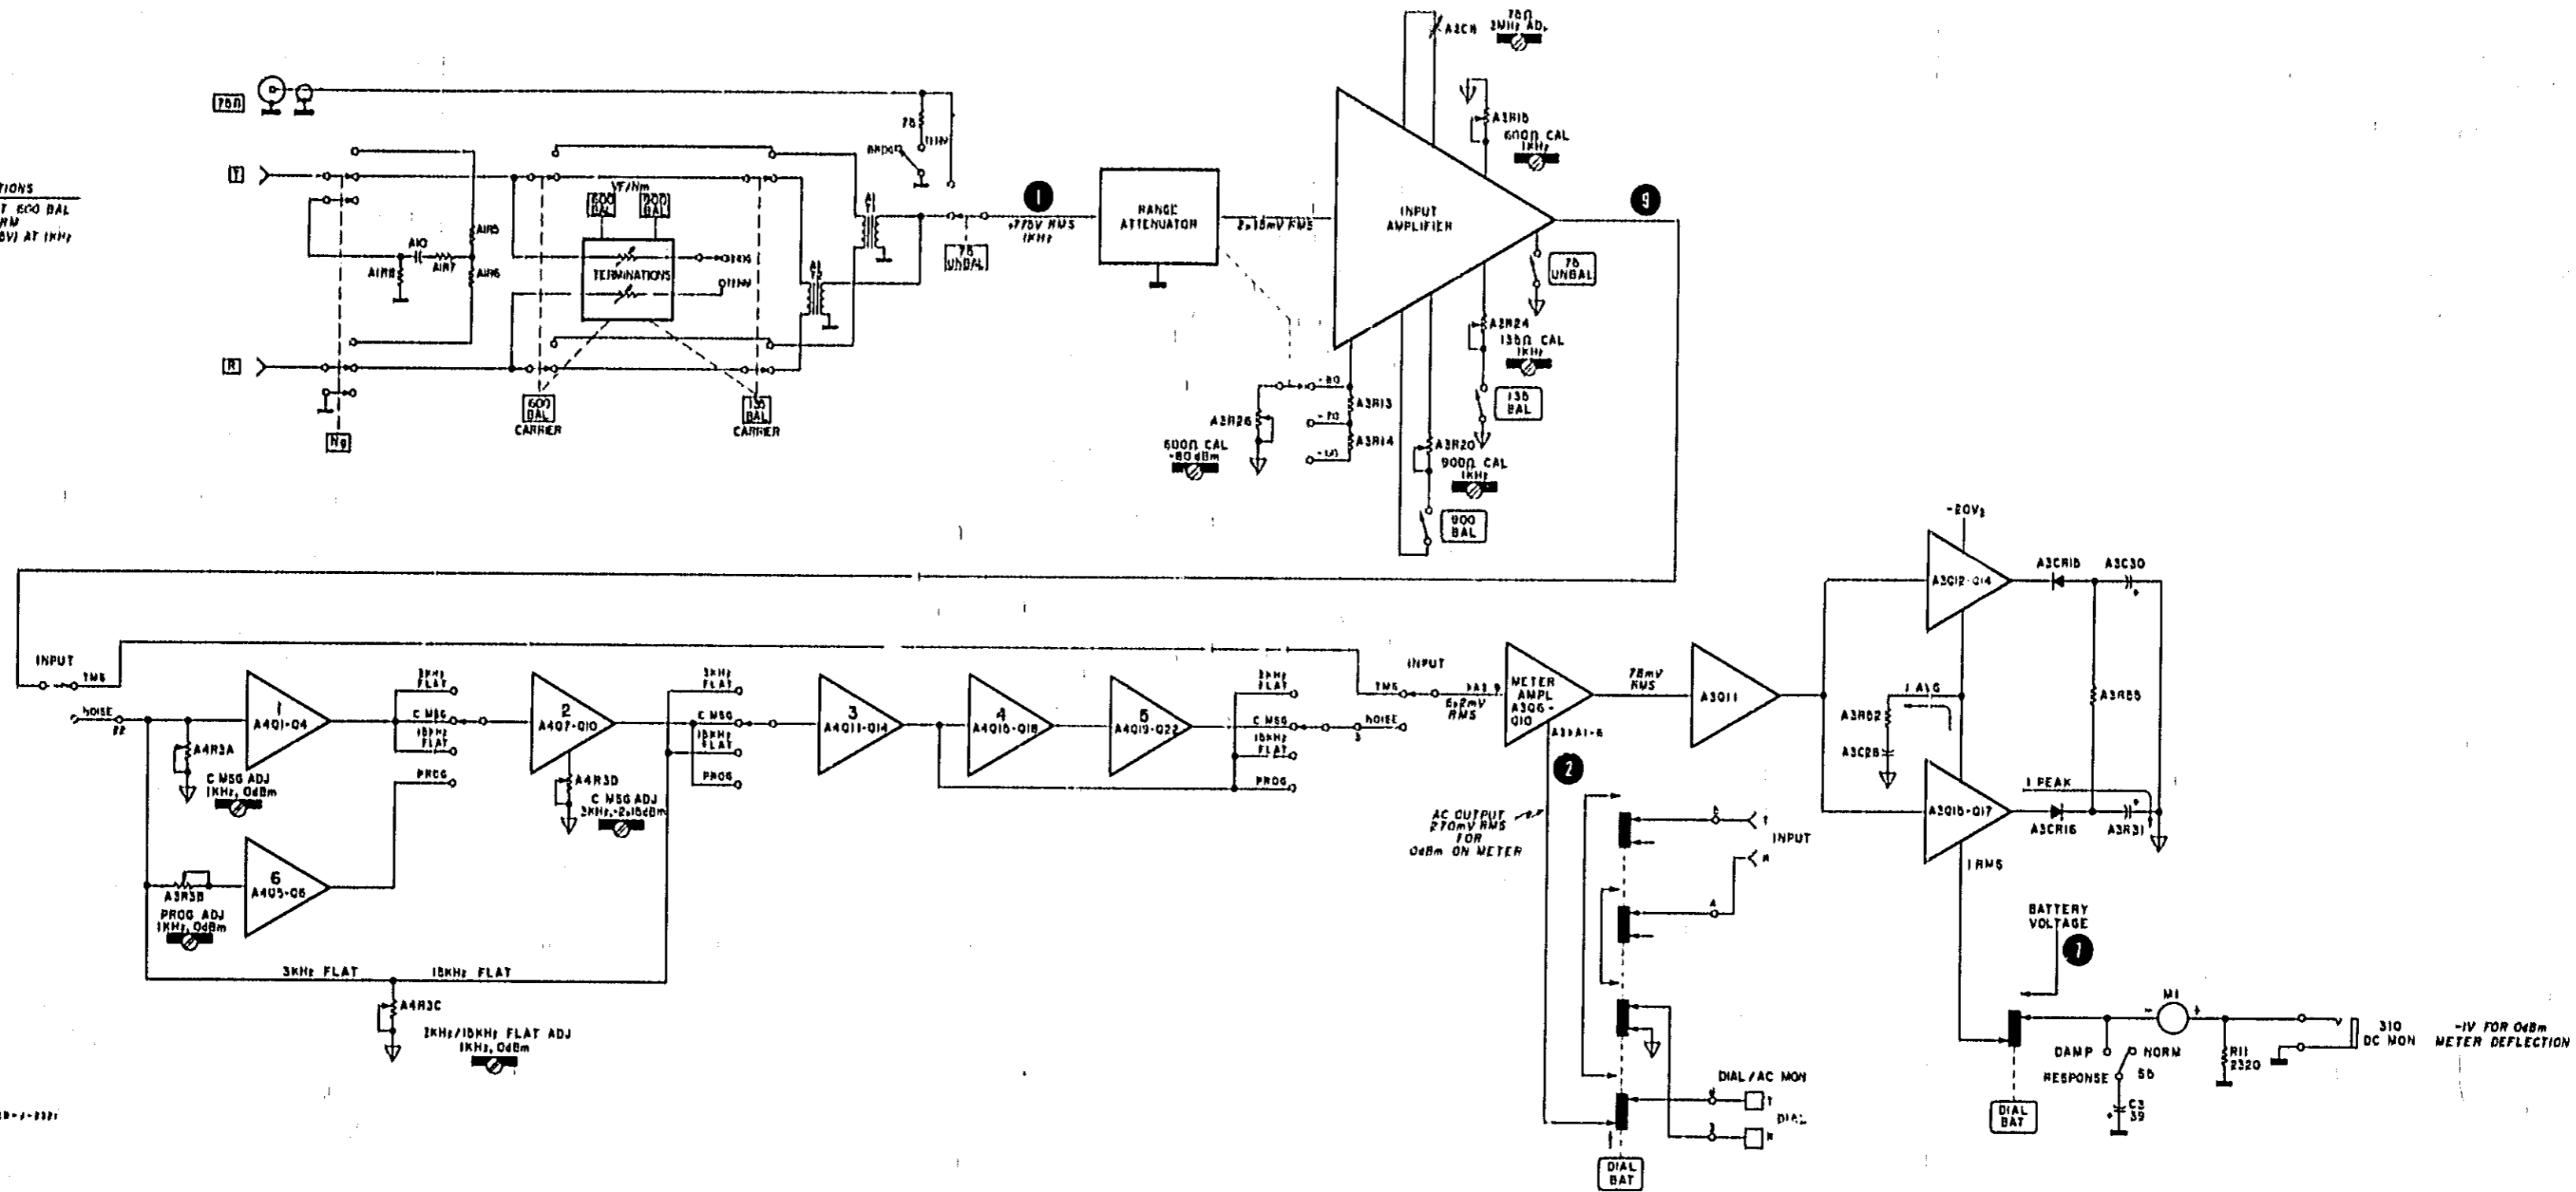

Figure 7-1. Functional Block Diagram
7.2. This section of the Manual contains circuit diagrams for the Model 3555B Transmission and Noise Measuring Set. The functional block diagram (Figure 7-1) contains signal levels to assist in troubleshooting. The schematic diagrams (Figures 7-2 through 7-5) show dc voltage levels which should also aid in locating faulty components.
7.4. The functional block diagram (Figure 7-1) of the 3555B serves the dual purpose of showing how various circuits are arranged to form the set and at the same time gives voltages and adjustments for use in troubleshooting the set. This functional block diagram should be used in